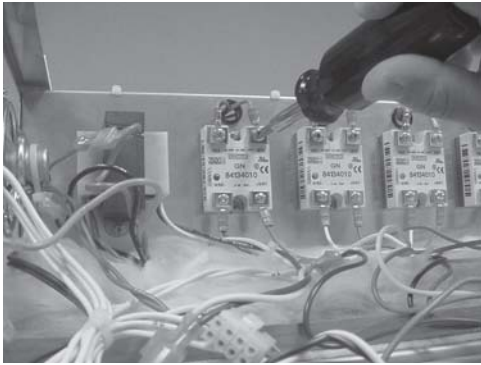

Figure 3-19
7. Label wires and then remove wires from relay using a Phillip's head screwdriver. Figure 3-19.